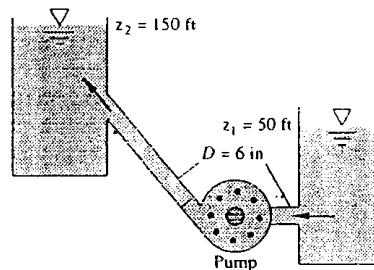

Fig. P3.141
**3.141** Water at 20°C is pumped at 1500 gal/min from the lower to the upper reservoir, as in Fig. P3.141. Pipe friction losses are approximated by  $h_f \approx 27V^2/(2g)$ , where  $V$  is the average velocity in the pipe. If the pump is 75 percent efficient, what horsepower is needed to drive it?